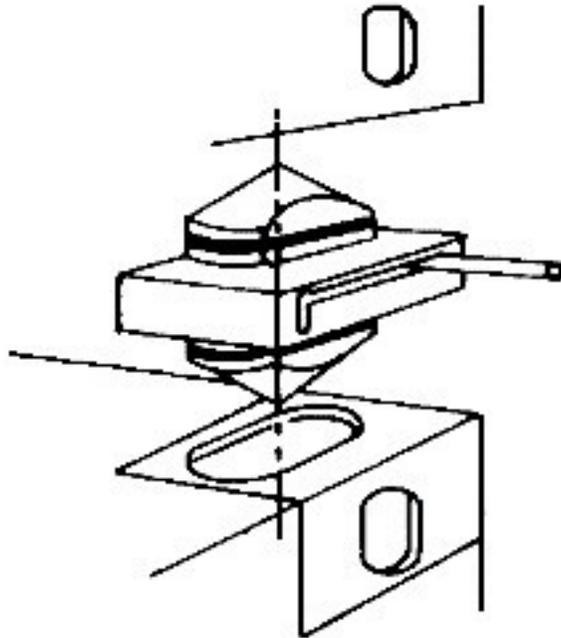
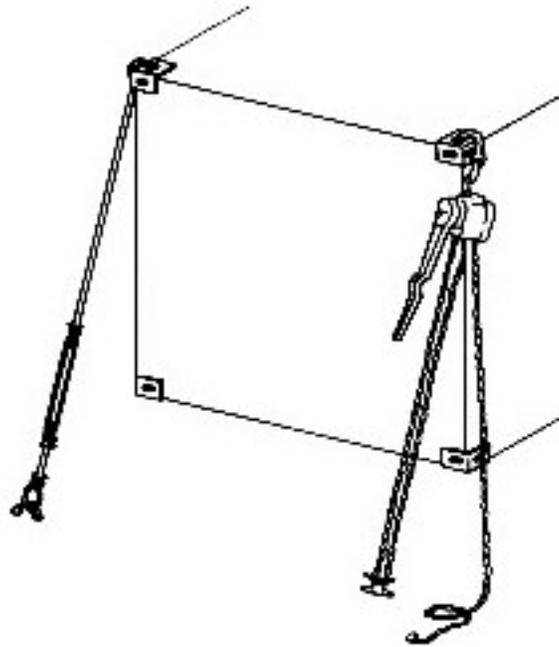

Figure 3-144
Figure 3-145
5. Ensure personnel install stack fitting twist lock devices between containers when stacking (see Figure 3-144).
6. Ensure personnel stack containers no more than three (3) high.
7. Ensure personnel attach lashing assemblies to front and rear of containers (see Figure 3-145).